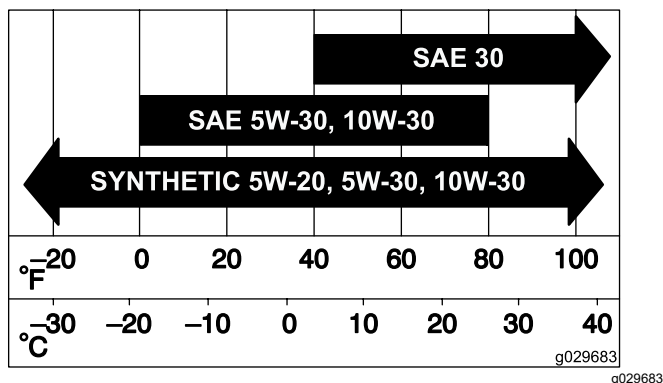

Figure 58
3. Release the latches on the air cleaner and pull the air-cleaner cover off the air-cleaner body (Figure 58).
5. Gently slide the filter out of the air-cleaner body (Figure 58).
2. Carefully slide the filter into the air-cleaner body (Figure 58).
3. Install the air-cleaner cover and secure the latches (Figure 58).